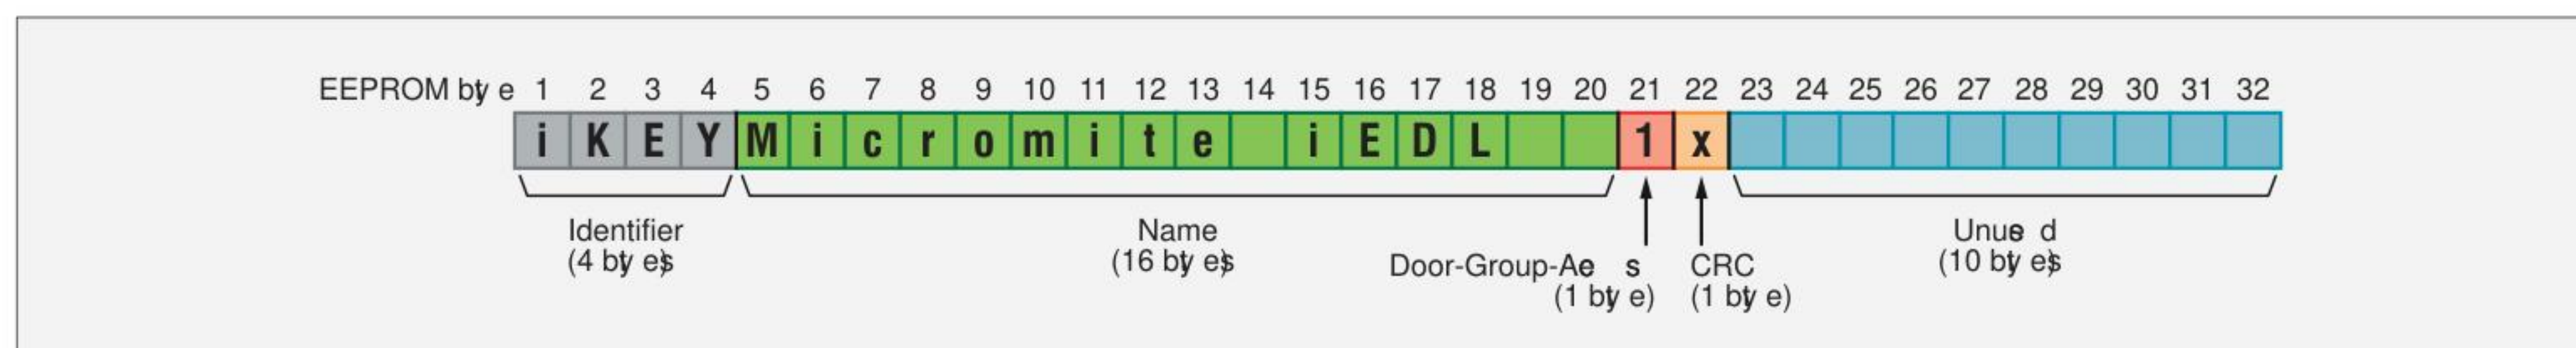

Fig.1. The user iKey stores configuration data in EEPROM – 22-bytes of the available 32-bytes are used.
- User iKey configuration data has a capacity of 32-bytes; however, (referring to Fig.1) only 22-bytes are used: